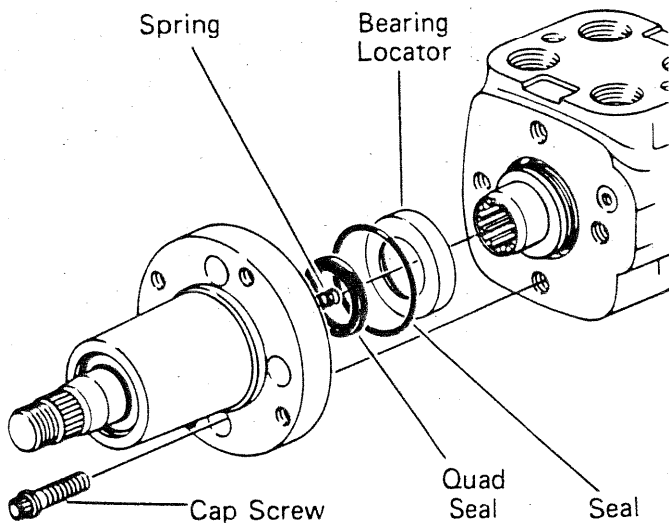

Figure 27
- 2 Remove column and spring, see Fig. 27.